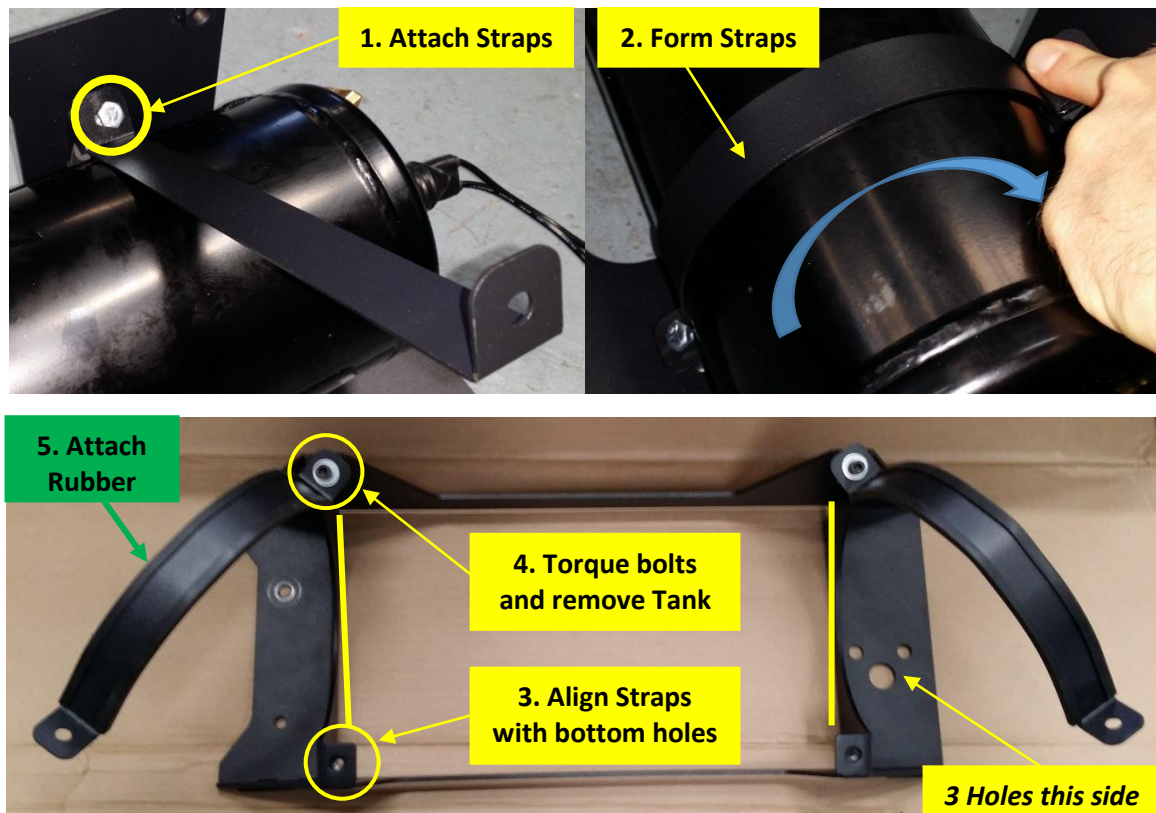

Figure 5 - RAPTOR-202 Tank Straps Formed and Attached (Shown without Air Tank and mis-aligned)
- 9.3.1. Temporarily place Air Tank inside Tank Bracket, then attach both RAPTOR-202 Air Tank Straps to upper holes on RAPTOR-201, using hardware (2) #4, #8, #9., as shown in Figure 5 below.
- 9.3.2. To form straps around tank, ensure top bolts are hand tight, then grasp each strap and bend it around tank, as shown below. Once strap is formed, torque top bolt to 37 in-lbs and remove tank from Bracket, as shown in Figure 5 below.
- 9.3.3. Attach (2) Rubber strips #16 to RAPTOR-202 parts, as shown with green arrows in Figure 5 below.